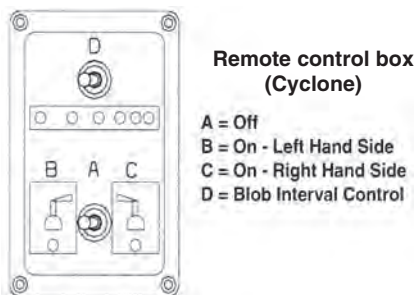

Fig 20
- 3 **Note:** Some Hardi Foam Marker units work as stand alone, ie. controlled with Foam Marker control box (Fig 20).